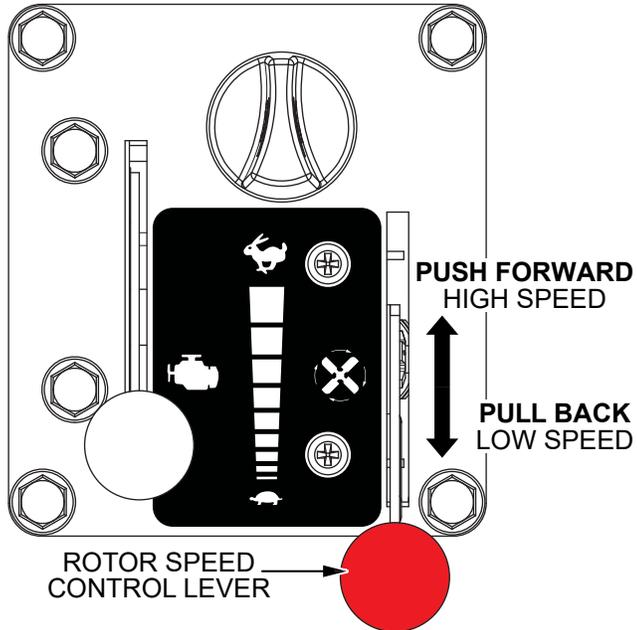
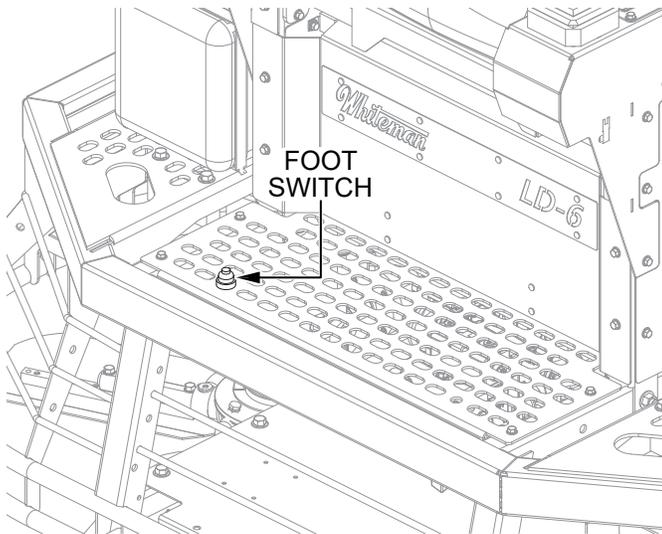

Figure 24. Rotor Speed Control Lever
Figure 25. Foot Switch
The rotor speed control lever (Figure 24) controls rotor speed in conjunction with the foot switch (Figure 25). The foot switch rotates the blades while the position of the rotor speed control lever determines the rotational speed of the blades.
1. With the engine running, depress and hold the foot switch (Figure 25) with your right foot to begin rotating the blades.